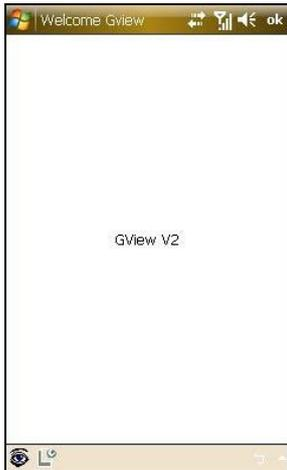

Figure 10-2
3. Click the  button located at the lower left corner (Figure 10-2). The login screen appears.